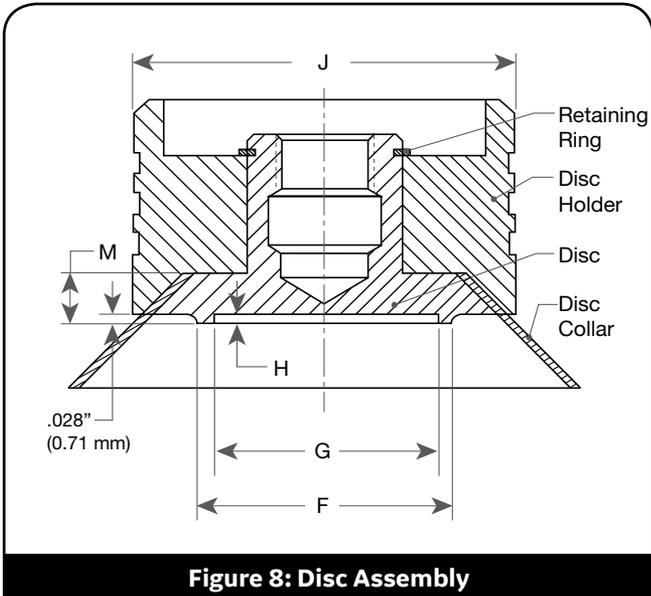
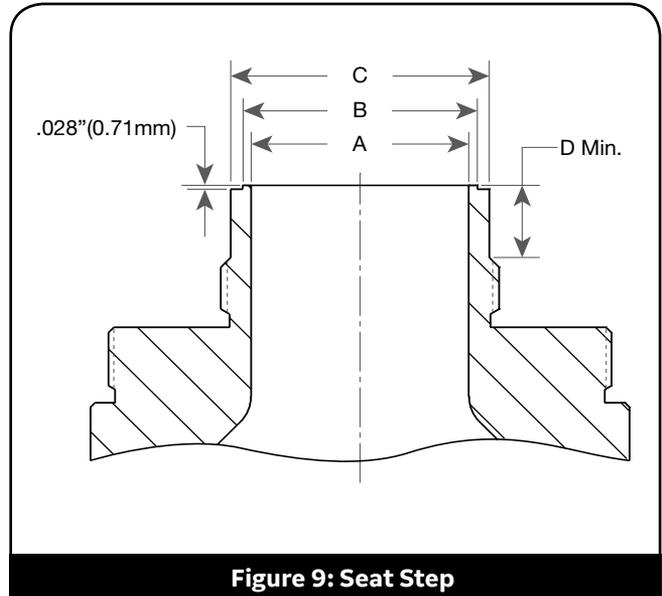
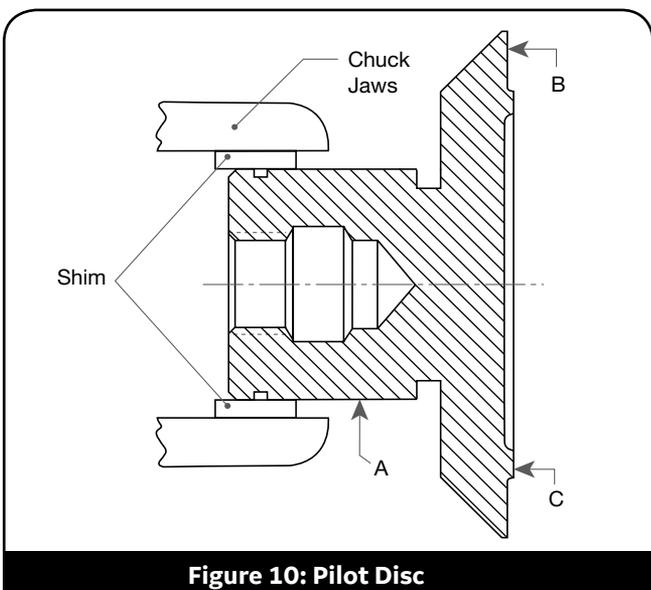
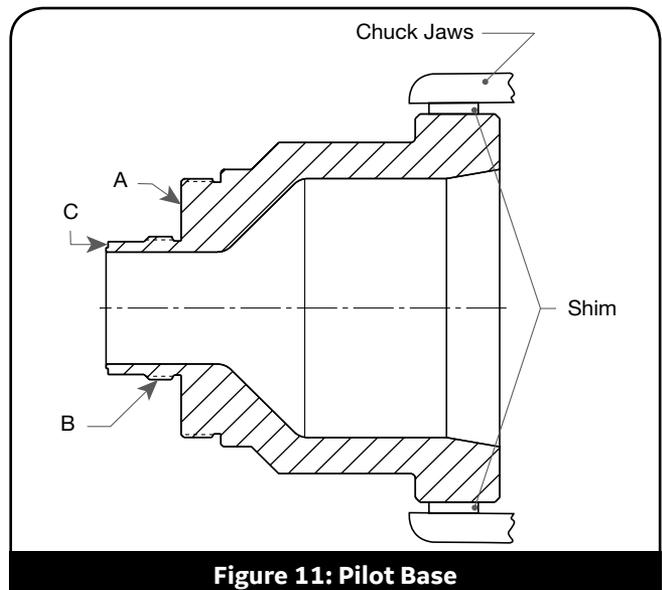

Figure 8: Disc Assembly
Figure 9: Seat Step
Figure 10: Pilot Disc
Figure 11: Pilot Base
To recondition the disc seal by lapping, it is necessary to disassemble the disc assembly. This is done in the following manner: referring to Figure 8 and Table 4, the disc is contained in the disc holder by a Truarc retaining ring. The ring may be removed using a Truarc Plier, BHGE Part No. 5153302, after removing the Truarc ring, the disc collar can be removed from the disc holder.
11. When the seats cannot be repaired by lapping, they can be machined in accordance with the following instructions. Refer to Figures 8 to 11.
- b) Take light cuts across Disc Seat "C" (Figure 10) to remove defects and restore 32 RMS finish. Dimensions F and G must be maintained (Figure 8) and dimension .028" (0.71 mm) must be reestablished. When "M" dimension (Figure 8) has been reduced to .284" (7.21 mm), the disc should be replaced.
- c) Take light cuts across Pilot Nozzle Seat "C" (Figure 11), to remove defects and restore 32 RMS finish. Dimensions A, B and C must be maintained (Figure 9) and the seat step dimension .028" (0.71 mm) must be reestablished (Figure 9). When "D" dimension is reduced below minimum specified (Figure 10), the base should be replaced.
2. Reassemble disc assembly as shown in Figure 8.
3. Ensure the Pilot Base Flange (21) is installed on the Pilot Base (20). Place the Pilot Valve Base (20) and Flange (21) over the main valve bonnet studs (44) and secure with Nuts (45).
4. Place a new pilot bonnet to Base Gasket (25) on Base (20).
5. Put a small amount of lubricant1 on the spindle (31) tip and lower Spring Washer (30) bearing surface of the spindle. Thread the disc on the spindle and assemble the Spring (41) and Spring Washers (30) and (32) on the spindle.
7. Install the Adjusting Ring (28) on the base (top of adjusting ring flush with seat).
8. Place a small amount of lubricant on the ball end of the Compression Screw (40).